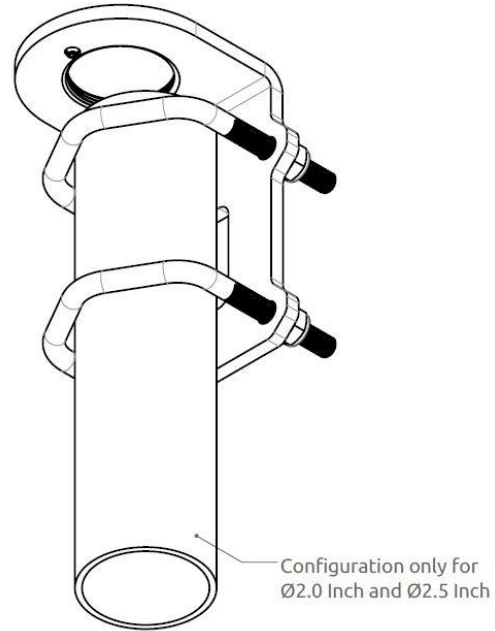
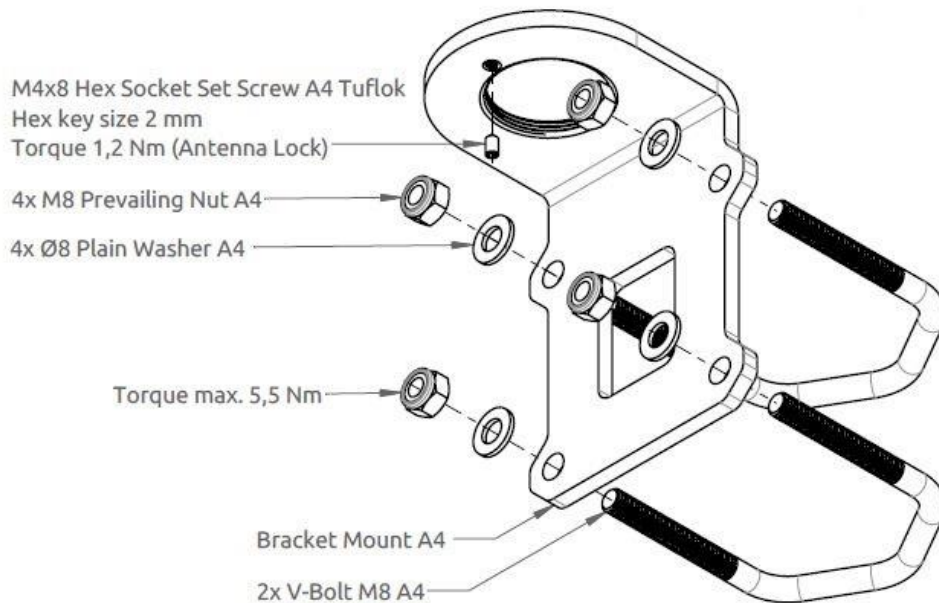

Figure 14: Bracket Mount (1.5" to 2.5" tube), Antenna Unit – vertical tube mount.
Figure 17: Bracket Mount (1.5" to 2.5" tube), Antenna Unit – horizontal tube mount.
The Bracket Mount (1.5" to 2.5" tube), Antenna Unit installation options are illustrated in Figure 14 to Figure 17.
1. Fasten the bracket mount to a tube (max. 2.5" tube) by using the two V-bolts and the M8 prevailing nuts, as illustrated in Figure 17 on page 14 (max torque = 5.5 Nm)
NOTE: Always fasten the Bracket Mount, Antenna Unit (1.5" to 2.5" tube) to the tube, before installing the LT-3130 Antenna Unit (the antenna unit and bracket mount are fastened together by the thread lock). Remember to secure the pinot screw after the antenna unit has been fastened. The torques are specified in Figure 17 on page 14.
The Bracket Mount (1.5" to 2.5" tube), Antenna Unit can support tubes in the interval 1.5" to 2.5". The torques are specified in Figure 17. The bracket mount, V-bolts, and nuts are all made of A4 stainless steel